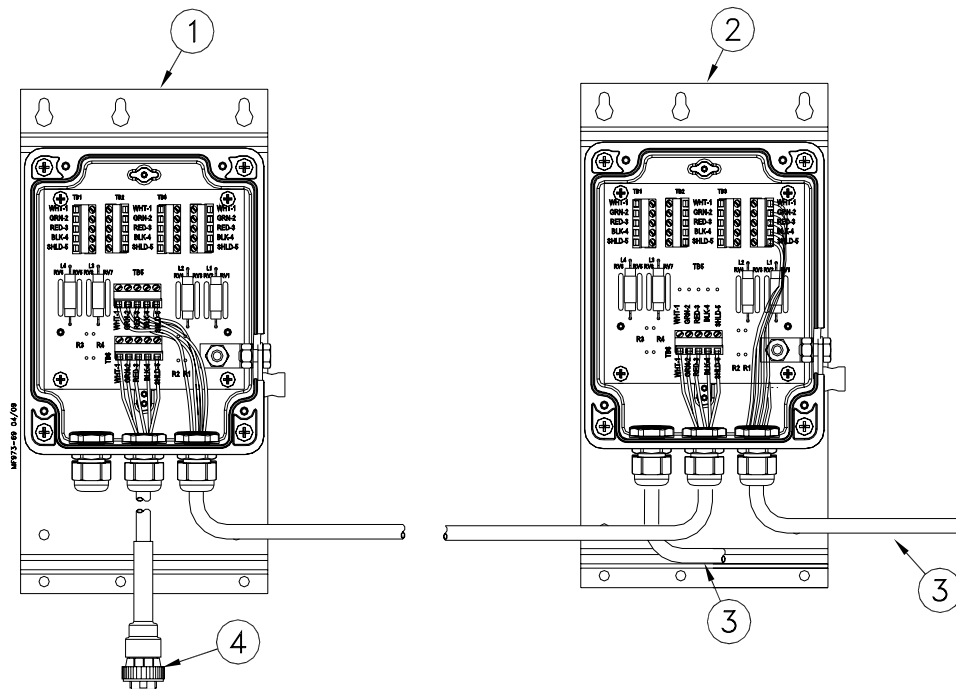

Figure 14. Duplex Kit Installation (front view)
Scale systems that use more than (4) Load Cells require the Duplex Kit. See Figure 14.
The Duplex Kit provides a box with (4) additional terminal blocks for the Load Cell wire leads. For example a scale using (6) Load Cells would have (4) Load Cells wire into box “A” and (2) Load Cells wired into box “B”. The wire from box “B” must be routed to the horizontal terminal block in box “A”. Route the wire from box “A” to the J902 Indicator. See Figure 14 on page 29. Note: The combined length of cable “A” and cable “B” must not exceed 100’ (30 m). These cables must be continuous cables with no cuts or splices. Coil the cables as specified in Figure 15 on page 30.